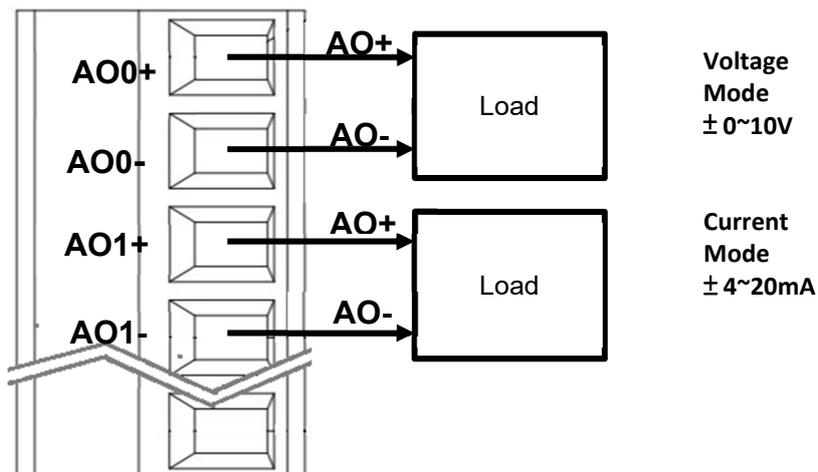

Figure 4.19 - Wiring of AO (Analog Output) Contact
Figure 4.19 shows an example of analog output (AO) contact wiring of the IO5202 in which the AO+ channel is connected to positive end of the load and AO- channel is connected to the negative end of the load. Note that the output signal from IO5202 can be configured as either voltage signal mode or current signal mode with corresponding ranges as described in Section 5.7.4.